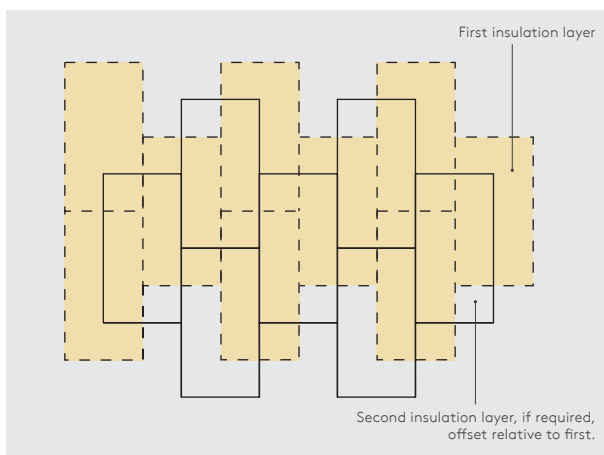

Figure 4
- In all cases, the layers should be horizontally offset relative to each other so that, as far as possible, the board joints in the two adjacent layers do not coincide with each other (see Figure 4).